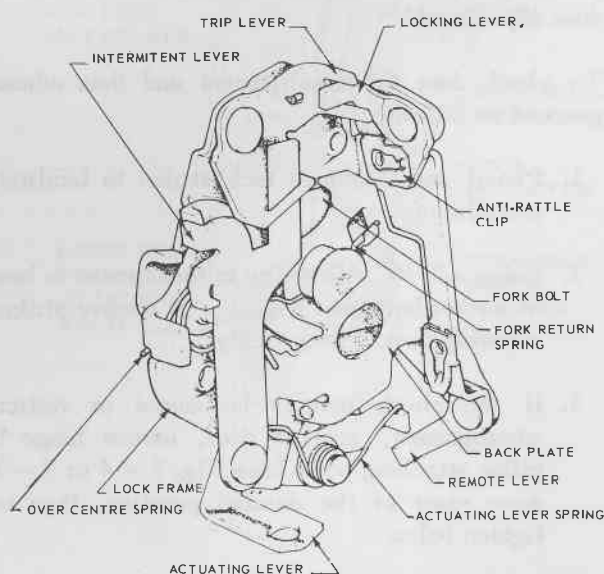

FIG. 7 - 7
3. From inside door, disengage spring clip securing cylinder to door outer panel (see Fig. 7 - 1 or 7 - 2).